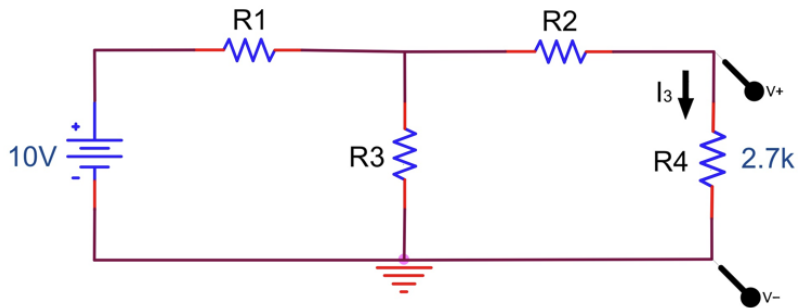

Figure 7.7
4. Measure and record the voltage at R_4 . Calculate the current going through the R_4 in Figure 7.7.